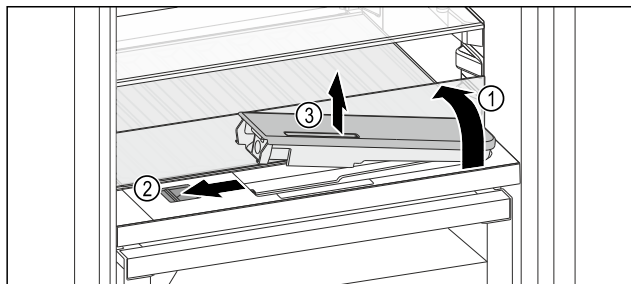

Fig. 170
- ▶ Lift the glass panel and fold to the back as far as it will go Fig. 170 (1).
- ▶ Slide the slider Fig. 170 (2) to the left.
- ▶ Remove the water tank Fig. 170 (3).